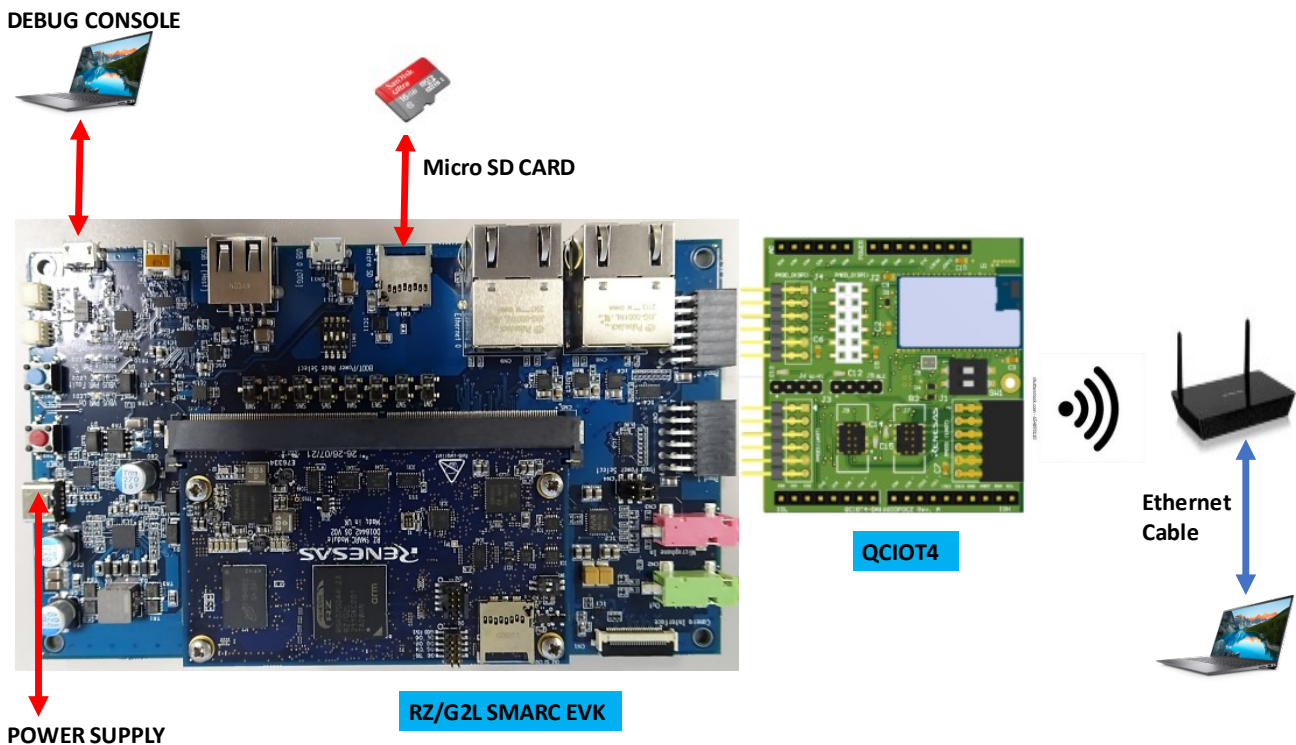

Figure 2. Evaluation Kit Connections with RZ/G2L
4. Connect to the board following the hardware connection section (see Figure 2).
Use the following procedures to set up the kit connections with RZ/G2L SMARC EVK as shown in Figure 2.
2. Connect the micro-SD Card to the slot present in the carrier board connection (see Figure 2).
3. Connect debug console to the serial terminal application software (see Figure 2)